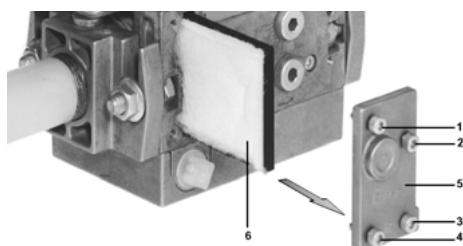

Fig. 27
- 2 Remove screws 1 ÷ 4 using the Allen key n. 3 and remove filter cover 5 in Fig. 27.